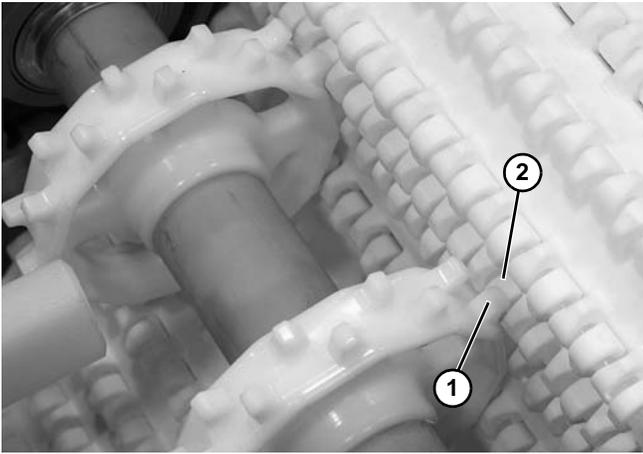

**Figure 13**
1. Position the belt on the conveyor frame (**Figure 13**).